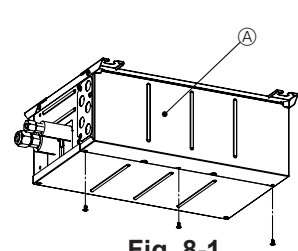
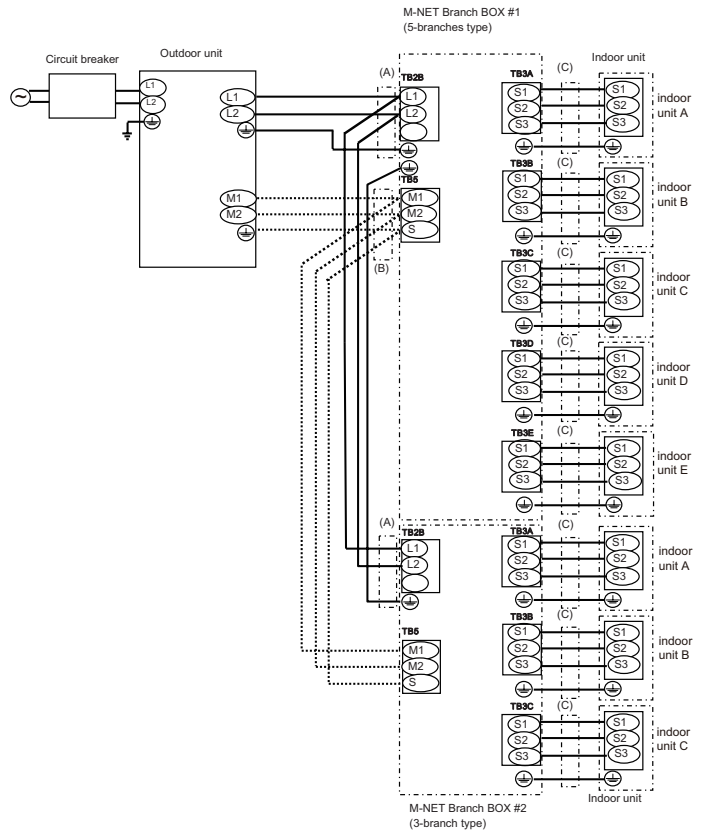

Fig. 8-1
Fig. 8-9
- (1) Remove the electric cover. (Fig. 8-1)
- (2) Remove the conduit cover.
- (3) Pass the wiring into the branch box through the conduit plate and fix with the conduit plate. (Refer to 8.1)
- (4) Firmly connect each wire to the appropriate terminal block. (Fig. 8-9)
- (5) Set dip sw. (Refer to 8.3)
- (6) Replace the electric cover.
8.2. External wiring procedure (Fig. 8-9)